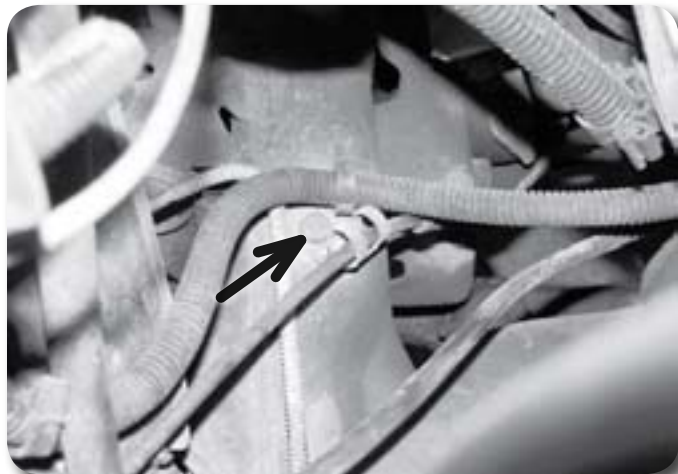

Figure 15
25. Remove the bolt mounting the axle actuator cable clamp to the passenger's side frame rail **Figure 15**.